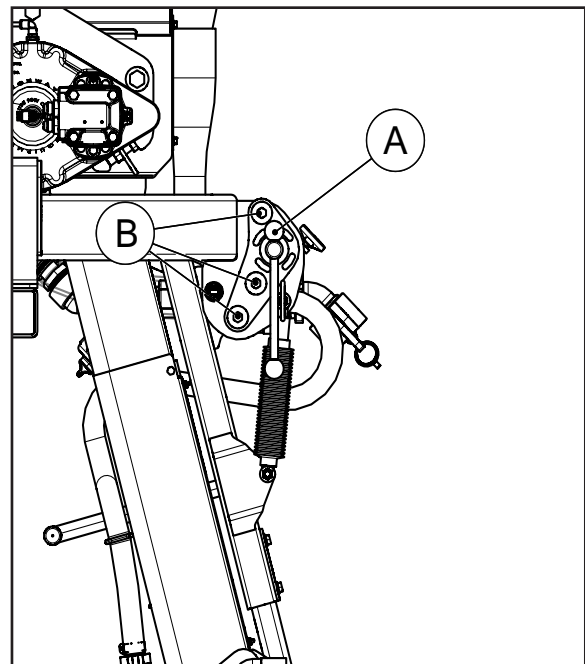

Figure 3
- Figure 3 - Verify that clamp is tight (A).
- Loosen spinner clamp hardware (B) two turns each.